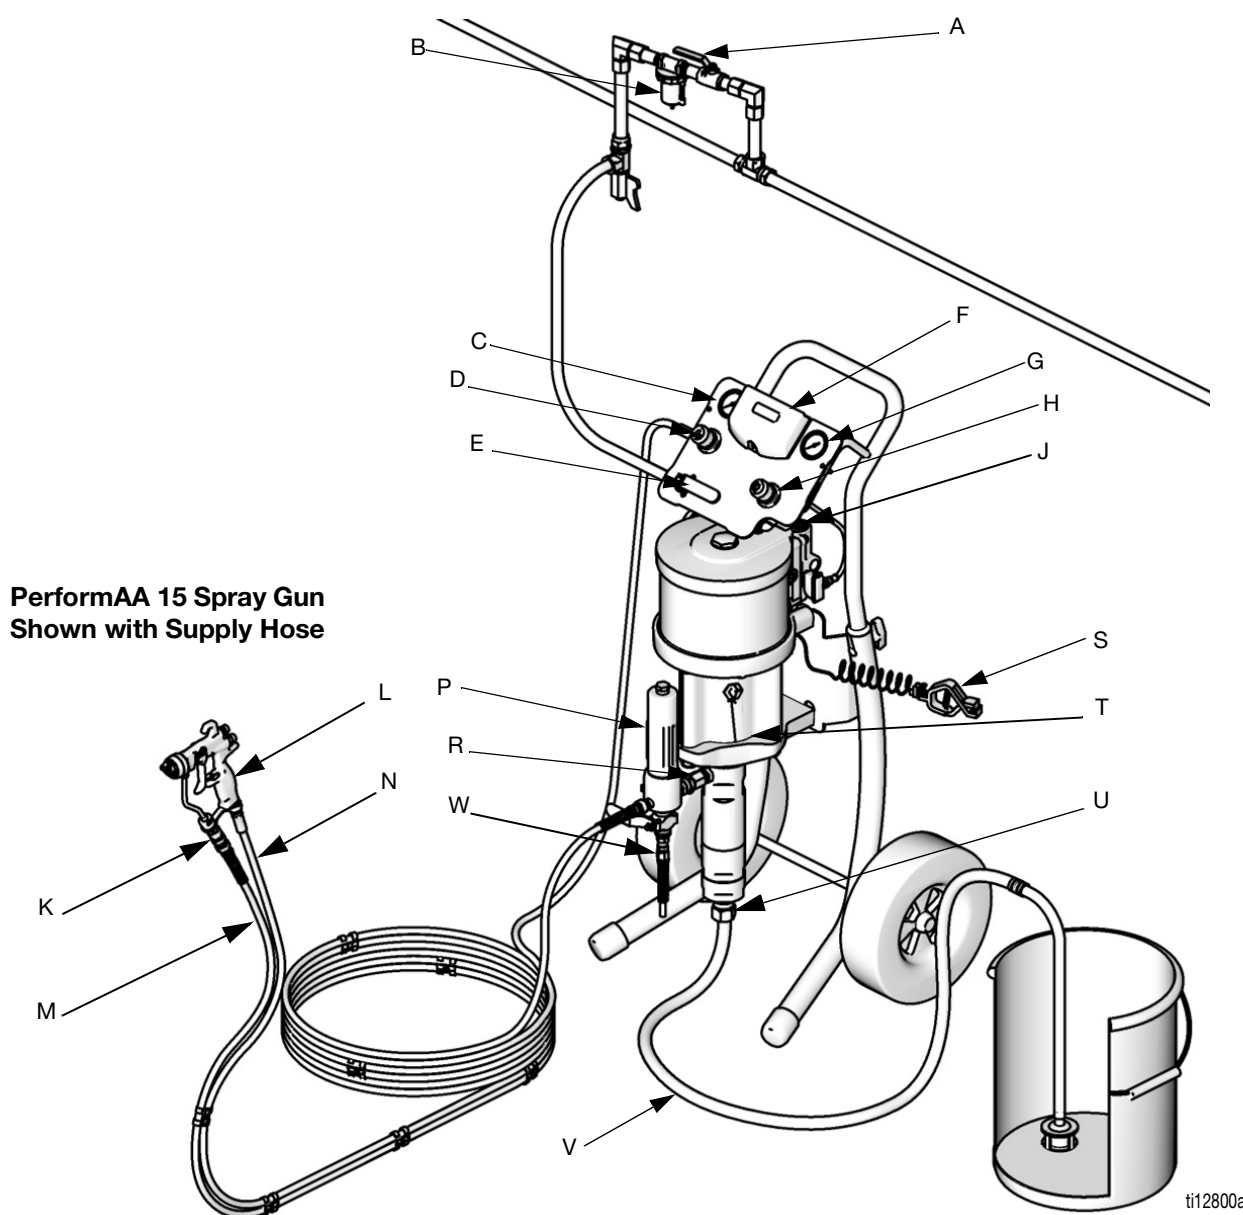

FIG. 1. Typical Installation (Your package may not include all items shown.)
FIG. 1 is only a guide for selecting and installing system components and accessories. Contact your Graco distributor for assistance in designing a system to suit your particular needs.
See FIG. 1. **Components vary by package ordered.** See tables on pages 7 to 16. Your package may include:
Install the following accessories in the order shown in FIG. 1, using adapters as necessary.
1. See FIG. 1. Attach end of blue fluid hose (M) to pump outlet (R) or filter (P) outlet.
2. Attach one end of the air hose (N) to gun air regulator (D).
3. Attach remaining end of the air hose (N) to air inlet at base of gun (L).
4. Attach gun swivel (K) to gun fluid inlet.
5. Attach other end of blue fluid hose (M) to gun swivel (K).
2. See FIG. 1. Turn off the bleed-type master air valve (E).
1. See FIG. 1. Lock gun trigger. Remove tip guard and spray tip from gun (L). Refer to gun manual.
2. Close gun air regulator (D) and pump air regulator (H) by turning knobs counterclockwise reducing pressure to zero. Close bleed-type air valve (E). Also verify that all drain valves are closed.
3. Connect air line to bleed type air valve (D).
6. Hold metal part of gun (L) firmly to side of grounded metal pail, unlock trigger, and hold trigger open.
- 8. Open bleed-type air valve (E). Slowly turn clockwise pump air regulator (H) increasing pressure until pump starts.